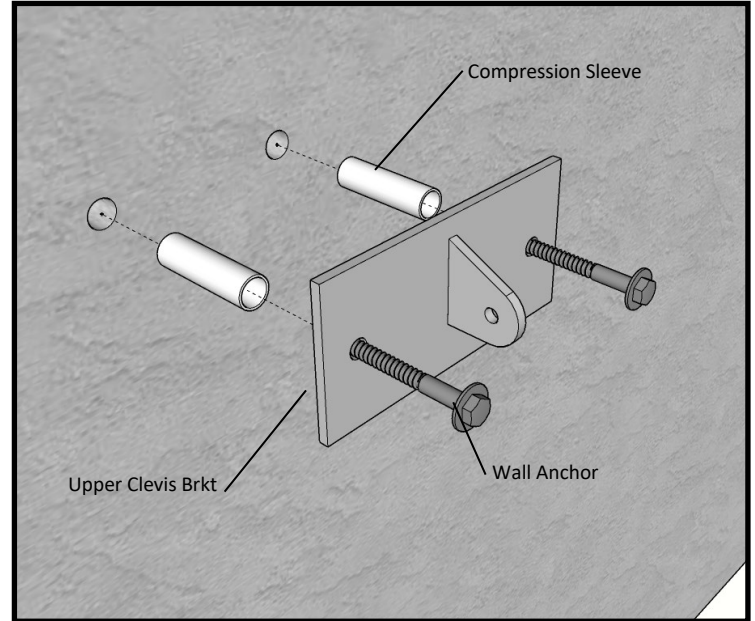

Fig 2
3. Once bracket locations are marked per the layout, drill thru wall finish until solid backing has been found. Cut spacer tube to length allowing 1/8" to extend out past finished wall surface and place in hole (see fig 2). Use the appropriate fasteners (#2) to mount wall attachment brackets. Use horse-shoe shims if needed (not provided) to compensate for uneven wall surface. Install sealant on back, top and sides of brackets.